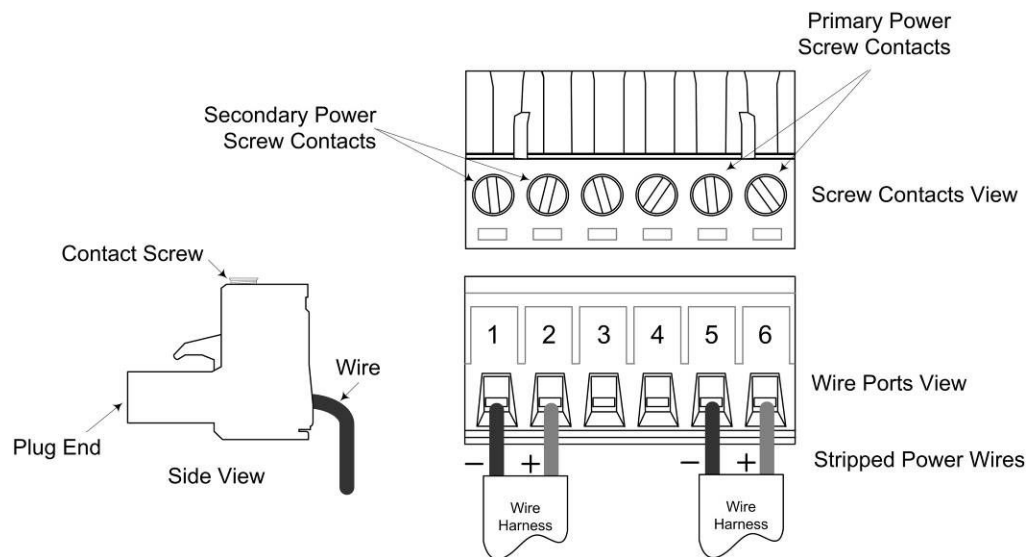

Figure 9: 6-Position Terminal-Block (Primary/Redundant Power Wiring)
3.	Insert one stripped power wire into the terminal block plug. Observe polarity. See Figure 9.
4.	Secure the wire using a flathead screwdriver by tightening the contact screw. See Figure 9.